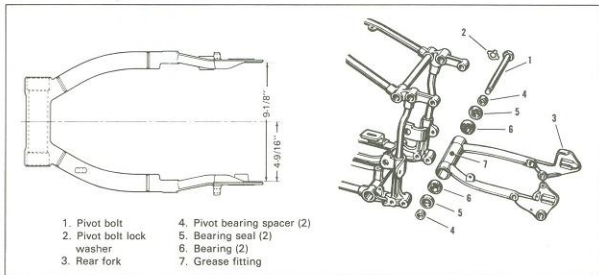

Figure 2-56. Rear Fork - Exploded View
DISASSEMBLING REAR FORK (Figure 2-56)
4. See Figure 2-56. Turn back locking ear on pivot bolt lockwasher (2) and turn out pivot bolt (1). Remove fork (3) from frame. With appropriate size arbor pin, push out bearing spacer (4), bearing seal (5) and bearing with outer race (6) from each side of fork pivot bearing.
2. Rough check the rear fork for correct alignment. Dimensions shown in Figure 2-56 will provide enough information to determine if fork is far enough out of alignment to require realigning or replacement. Straightening a badly bent fork requires special tools and fixtures for holding, bending and gauging.